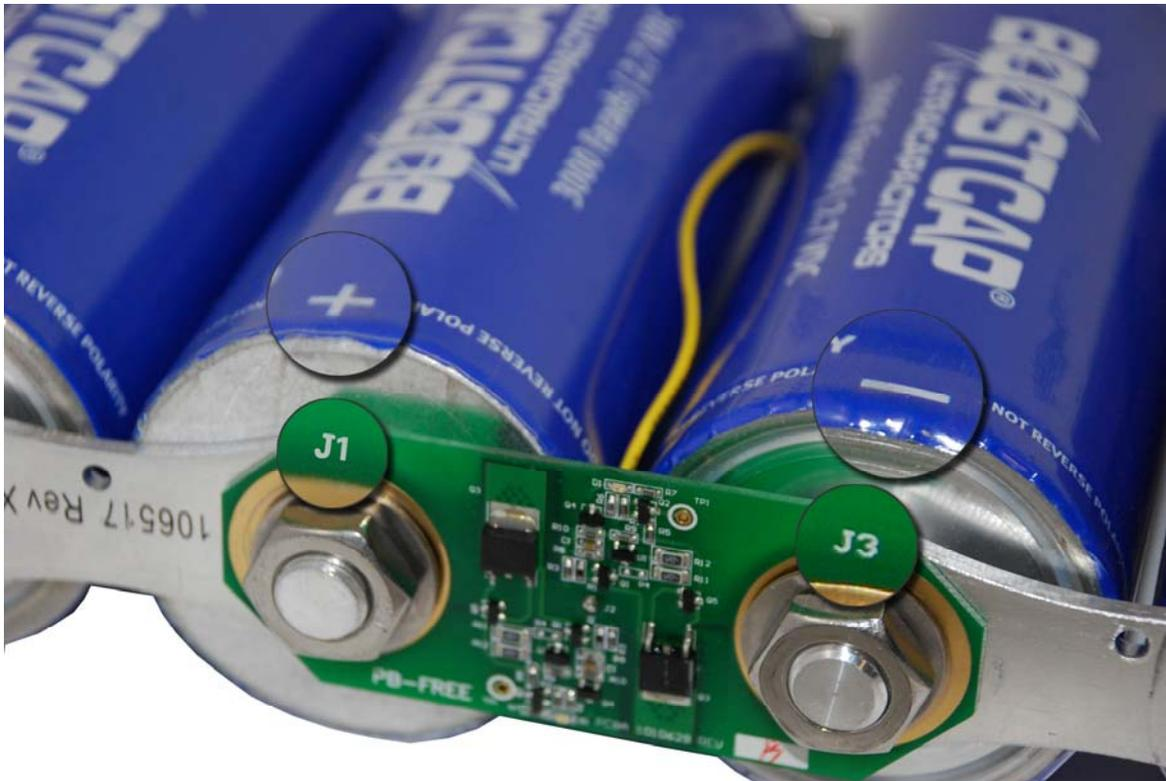

Figure 9
3.2.8 **Note:** The voltage management board is polarized. **J1 on the board is positive; J3 is negative.** Ensure correct polarities of capacitor terminal and voltage management board are connected. (Figure 9)